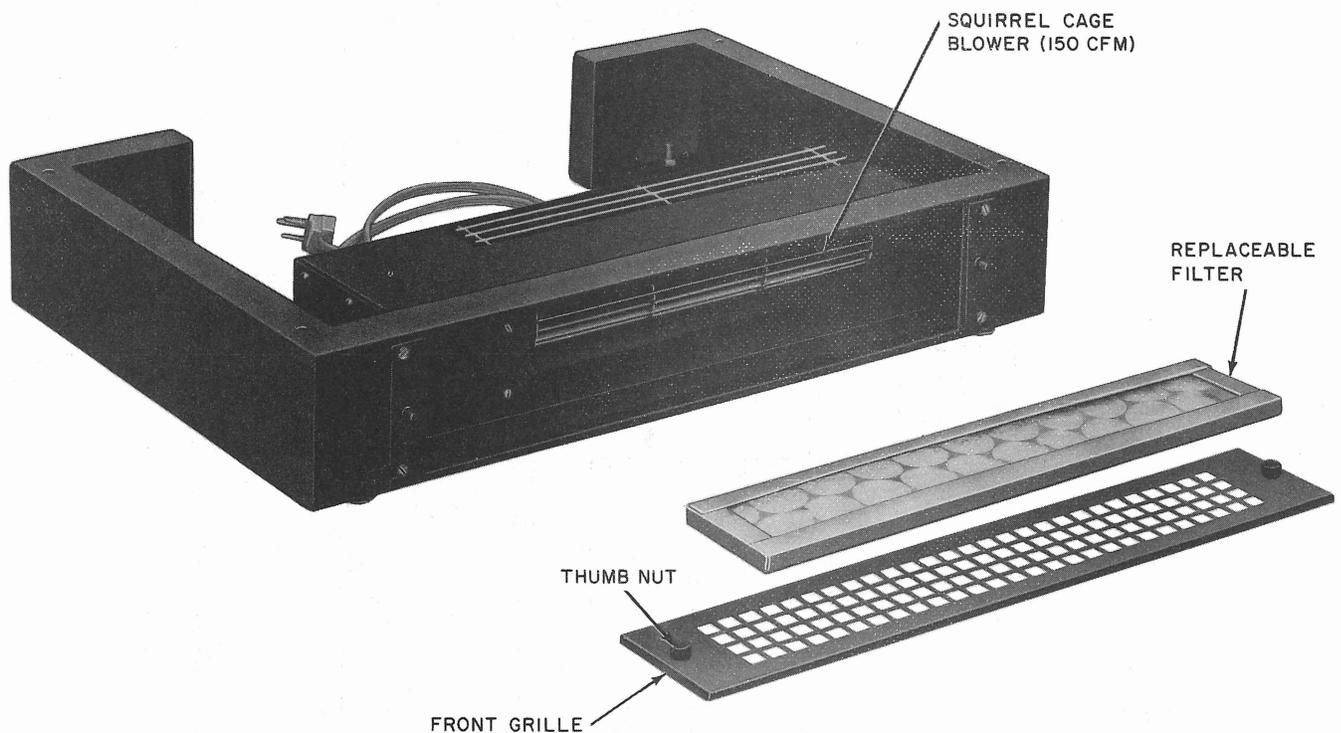

Fig. 1—Lower Skirt Assembly Removed and Partially Disassembled Showing Replaceable Filter
- (1) Remove two thumb nuts from front of blower grille. Remove and inspect filter (Fig. 1).
(2) If filter is dirty, discard and replace with a new filter. Replacement filters are available from McLean Company as their part number S-1032-21.
- (3) Install filter and replace front grille.